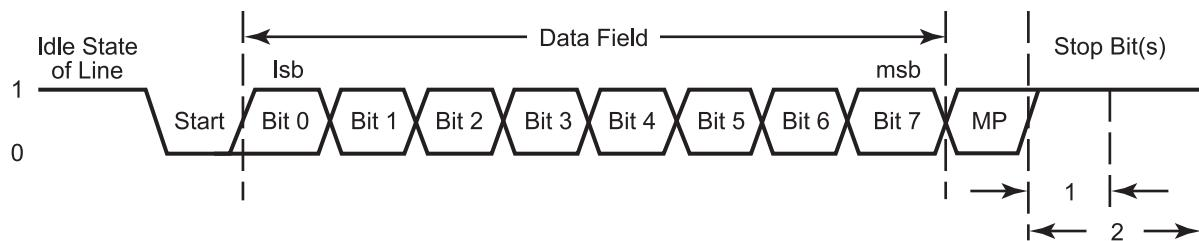

Figure 23. LIN-UART Asynchronous MULTIPROCESSOR Mode Data Format
The LIN-UART features a MULTIPROCESSOR (9-bit) mode that uses an extra (9th) bit for selective communication when a number of processors share a common UART bus. In MULTIPROCESSOR mode (also referred to as 9-bit mode), the multiprocessor bit (MP) is transmitted immediately following the 8 bits of data and immediately preceding the Stop bit(s) as illustrated in Figure 23.